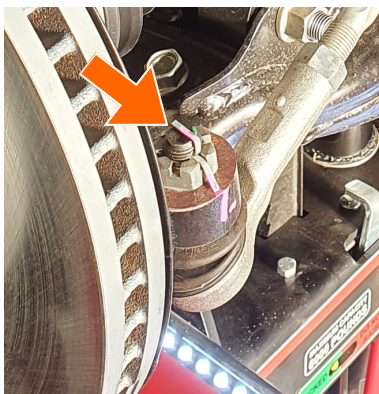

Fig. 1: Tie rod end.
2. Detach the tie rod end at the spindle steering arm on both sides of the Vehicle (Fig. 1).